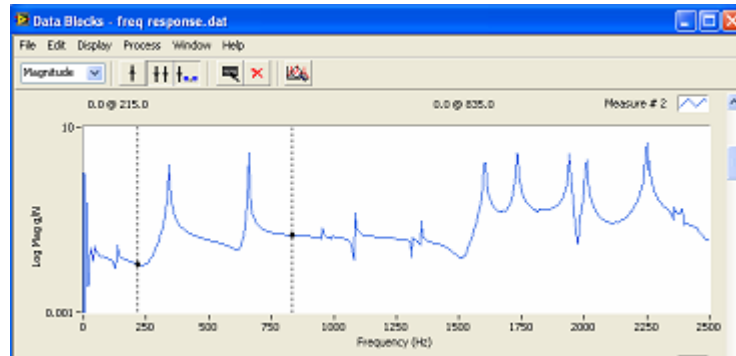

Figure 5-10 Frequency band selection
- Use band cursor to specify frequency band you want to estimation modal parameters. For an example, a frequency range from 215Hz to 835Hz is selected, as Figure 5-10 shows.